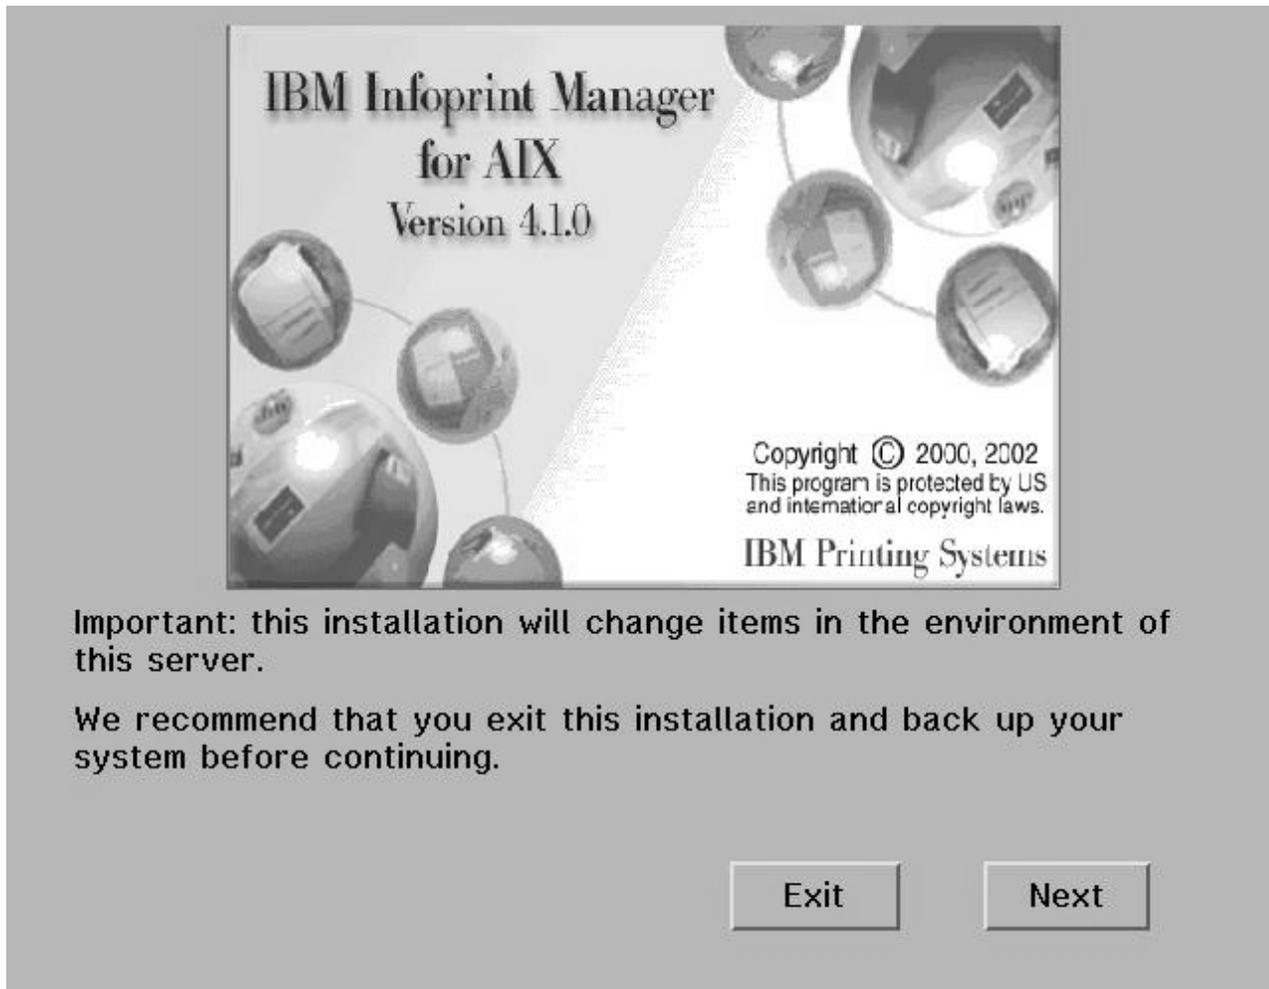

Figure 9. Infoprint Installer: first panel
1. Once you insert the initial Infoprint Manager CD-ROM, **CD 1: Base Server**, LCD4-1916, into the CD-ROM drive, the Installer's first panel (see Figure 9) advises users to back up the system, using the guidelines described on page "Backing up Infoprint Manager for AIX 3.2 systems" on page 20.